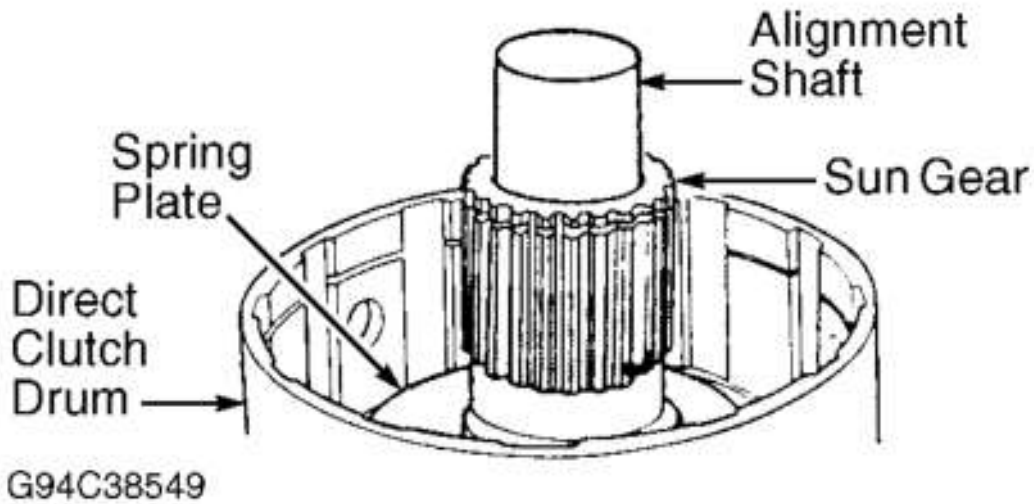

Fig. 48: Aligning Planetary Gear & Overrunning Clutch Hub Splines
9. Install sun gear, spring plate and thrust bearing in direct clutch drum. Install Alignment Shaft (6227-2) through sun gear to align splines of planetary gear and overrunning clutch hub. See **Fig. 48** . Ensure alignment shaft is fully seated.